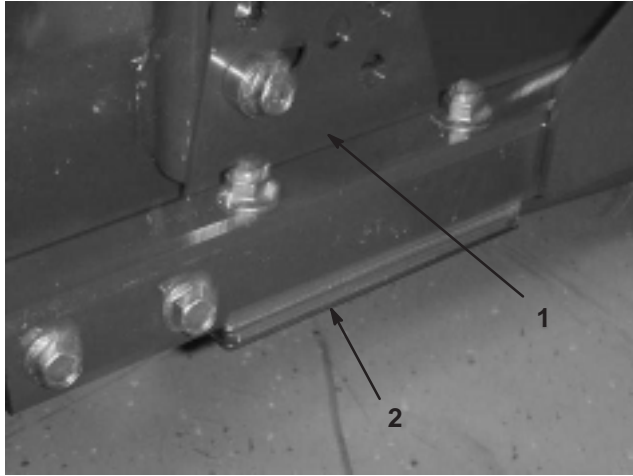

Figure 11
1. Remove height-of-cut bracket, (front, left, or right) from deck frame (Fig. 11).
2. Adjust .060 in. shims and/or .030 in. shim between the deck frame and bracket to achieve the desired height setting (Fig. 11).